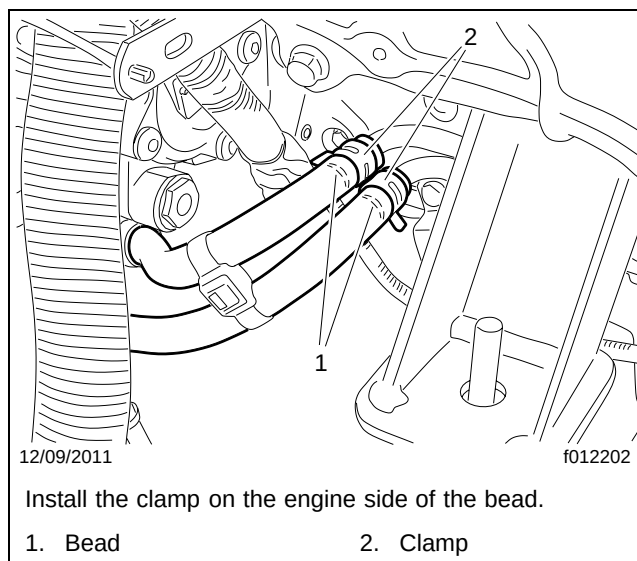

Fig. 1, Oil Cooler Hose and Clamp Installation
3. Inspect the hose and clamp for proper installation. See **Fig. 1**.
5. Position the clamp on the hose on the engine side of the pipe, behind the bead. Release the clamp ends to tighten the clamp and hold the hose in place. See **Fig. 1** for an example of proper hose and clamp installation.